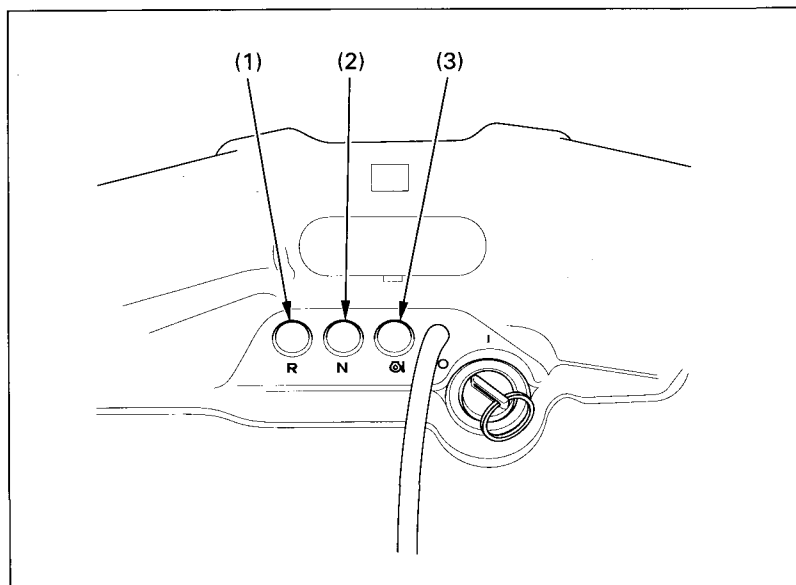

Fig. 2-14 (1) Reverse indicator lamp (2) Neutral indicator lamp (3) Oil high temperature indicator lamp
If the engine oil gets too hot, the oil high temperature indicator lamp (Fig. 2-14) will light.
The reverse indicator lamp (1) and the neutral indicator lamp (2) (Fig. 2-14) are next to the ignition switch.